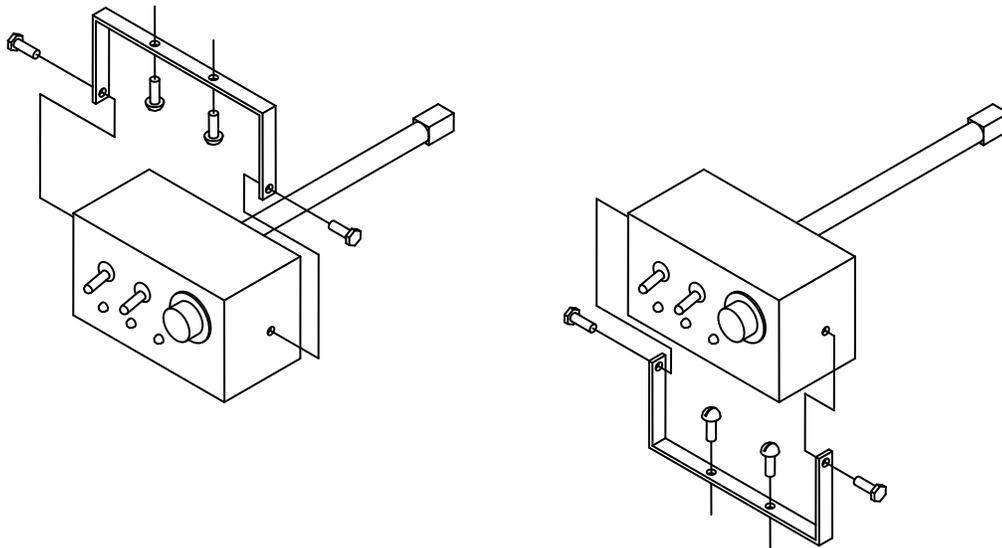

Figure 14. In-Cab Controller Installation Procedure
2. The controller can be mounted either above or below the mounting bracket, refer to Figure 14. Choose the best position that will not interfere with operation of the vehicle or visibility. **DO NOT** mount in a location that an occupant could contact during a crash.